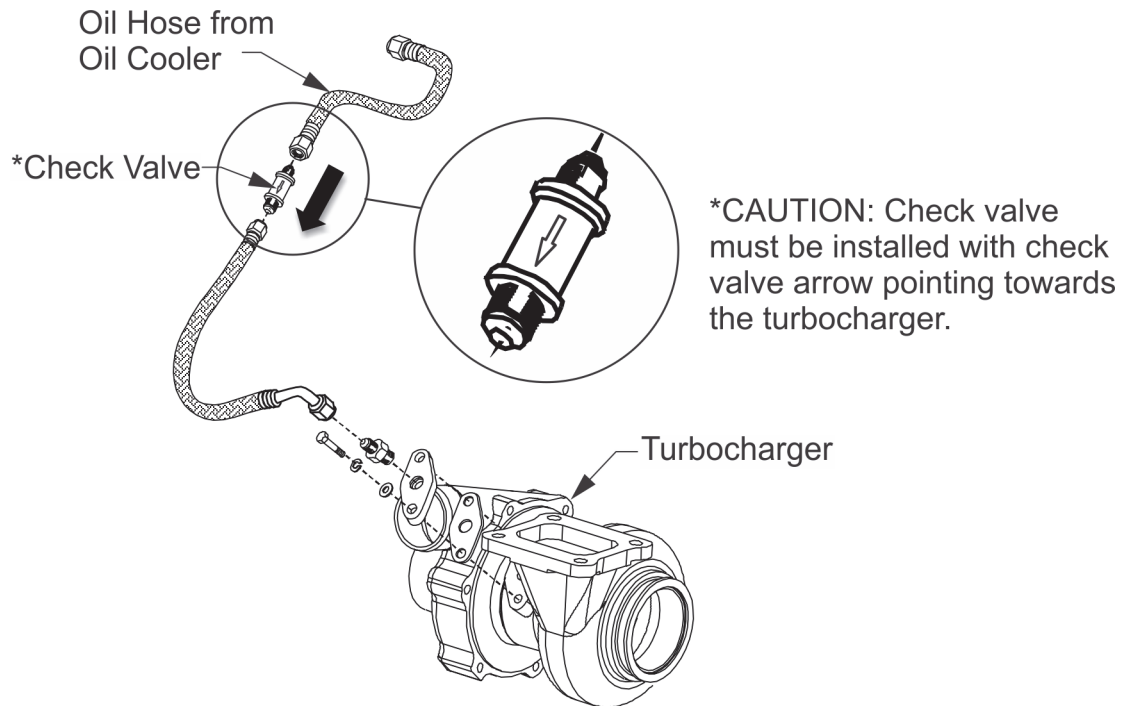
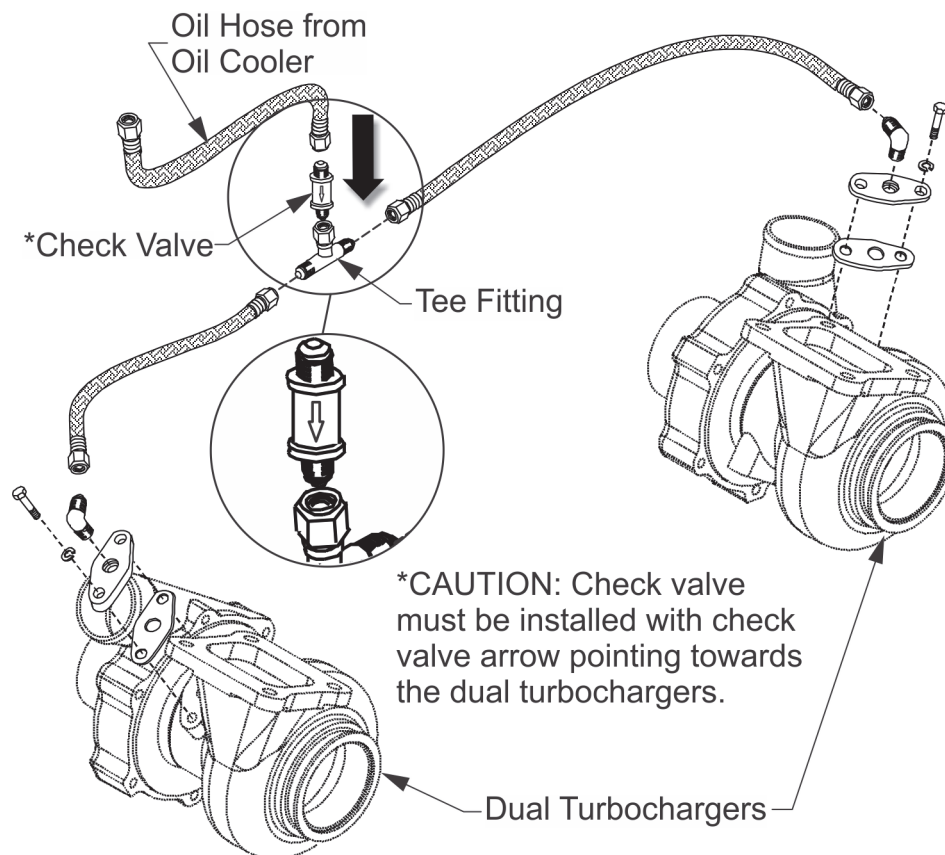

Figure 6-97.3. Single Turbocharger Lubrication (check valve location, typical)
Figure 6-97.4. Dual Turbocharger (check valve location, typical)
- a. hose servicing turbocharger (see Figure 6-97.3), or
- b. tee fitting (Figure 6-97.4).
CAUTION: Check valve must be installed with the check valve arrow pointing towards the turbocharger (see Figure 6-97.3 or Figure 6-97.4). If the check valve is installed improperly it will cause the check valve to malfunction and prevent turbocharger lubrication.
- a. hose servicing turbocharger and torque to 150-195 in.-lbs. (reference Figure 6-97.3), or
- b. tee fitting and torque to 150-195 in.-lbs. (reference Figure 6-97.4).